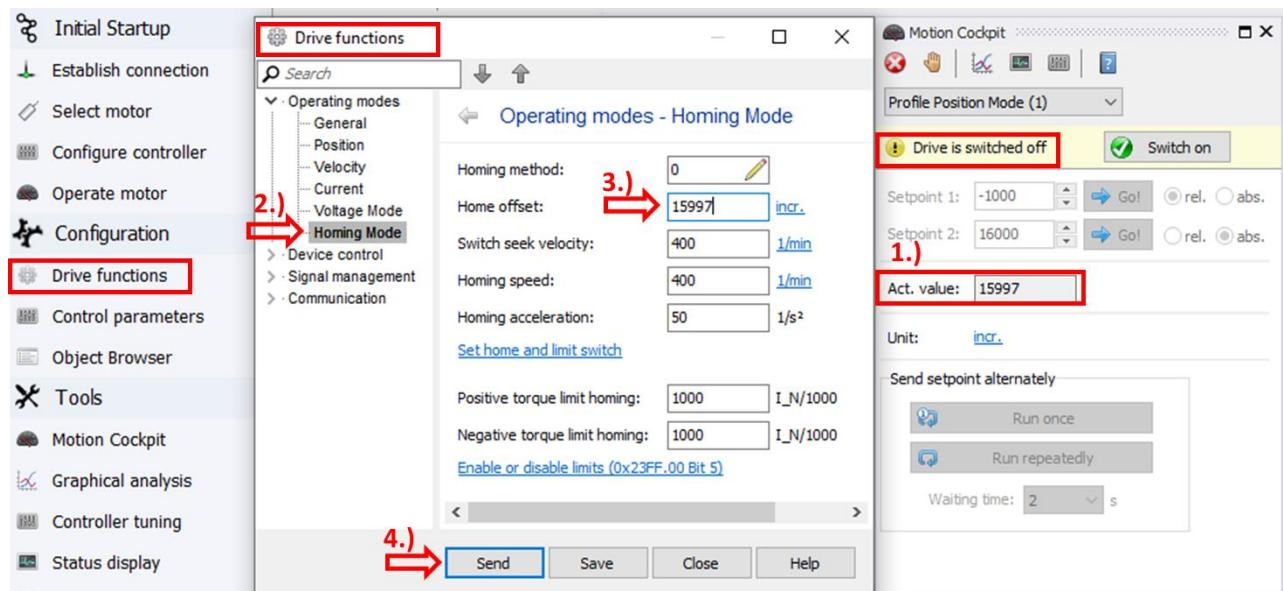

Figure 12: setting the home offset
- Read the actual position value (Figure 12, 1.)
- Open the selection window “*Drive functions*” and go to “*Homing Mode*” (Figure 12, 2.)
- Write the actual position value in the field “*home offset*” (Figure 12, 3.)
- Send and save the changed value (Figure 12, 4.)